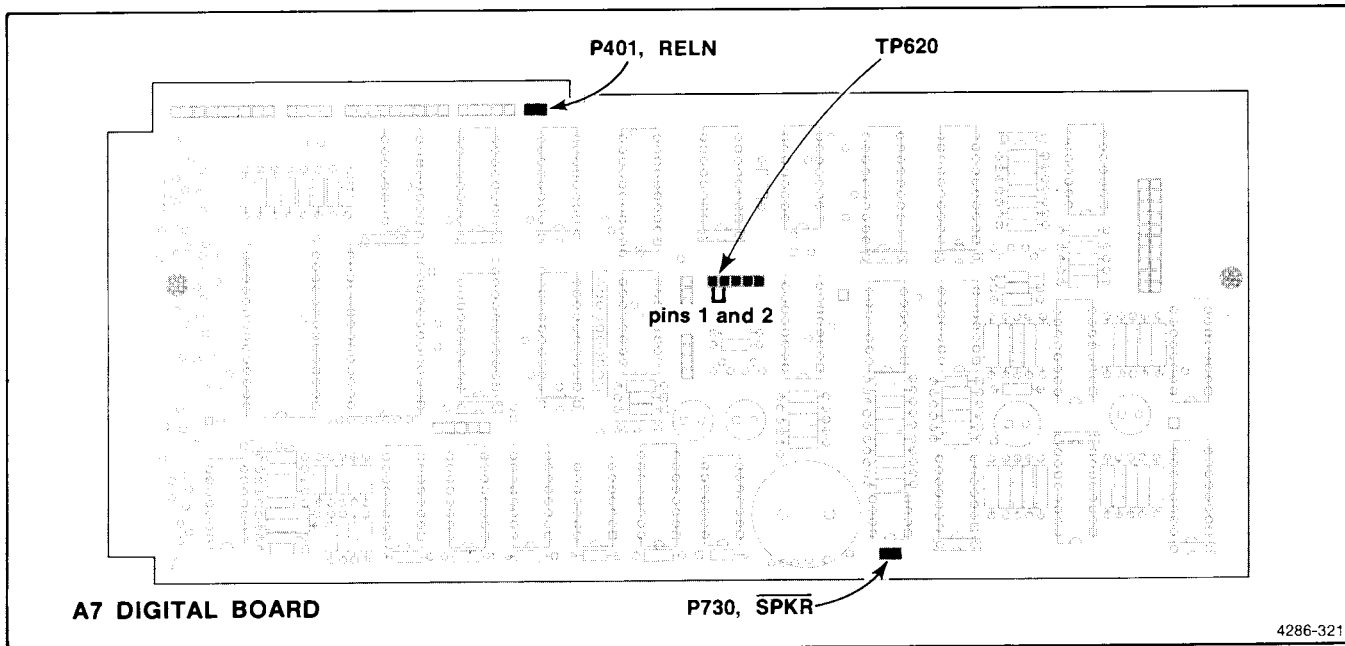

Figure 3-8. Location of jumpers on the A7 Digital Board.
10. Install the \overline{SPKR} link-plug jumper, A7P730, to disable the speaker. See Figure 3-8 for link-plug jumper location. Use long-nose pliers to access A7P730 through the hole in the bottom rail.
4. Install the $\overline{\text{SPKR}}$ link-plug jumper A7P730 to disable the speaker. See Figure 3-8 for jumper location.